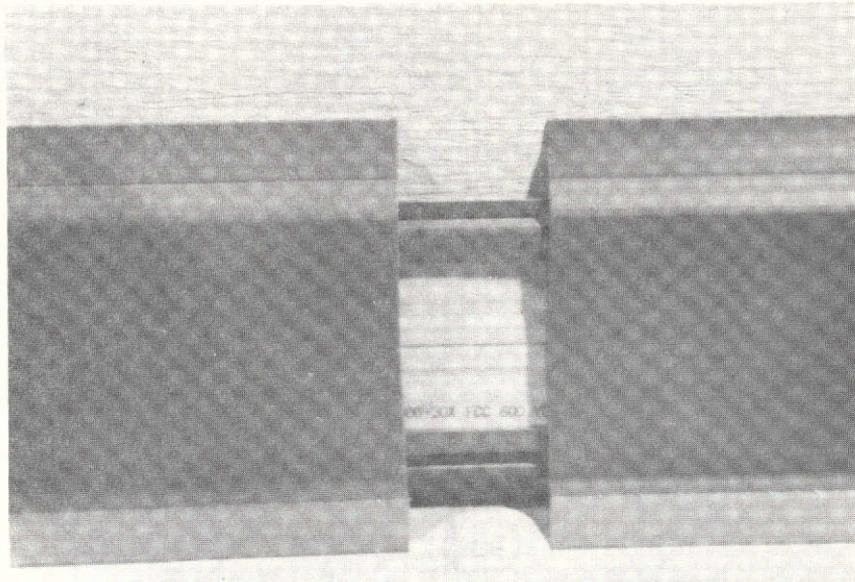

Figure 21. Void Between Front Cover ends for Splice
1. Front cover splices are made only where the wall length is too long for a single section of baseboard. In making a front cover splice, a void of 1-1 1/2 inches should be left between the front cover ends to allow snap-on of the front cover splice (see Figure 21).
2. The front cover splice is snapped in place as shown in Figure 21.